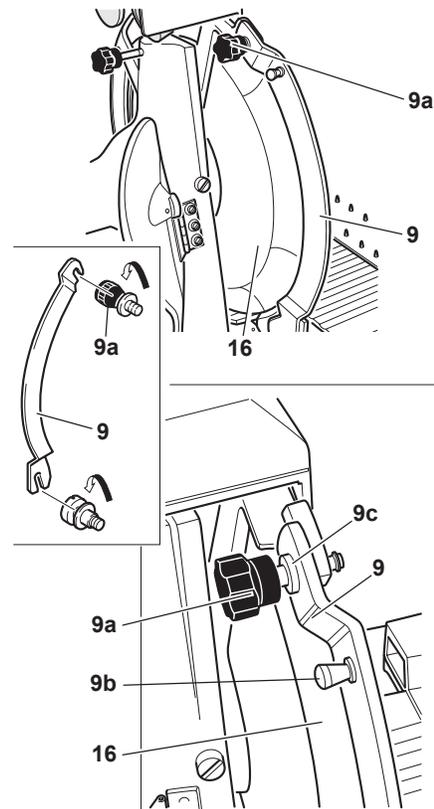

Figure 12-4
- Loosen, but do not remove the top and bottom knobs (9a) on the knife guard (9) (Figure 12-4).
- Use the knife guard thumb screw (9b) to lift the knife guard (9) up and to the left of the top and bottom knife guard spacers (9c).
- Tighten the top and bottom knobs (9a) on the knife guard (9).